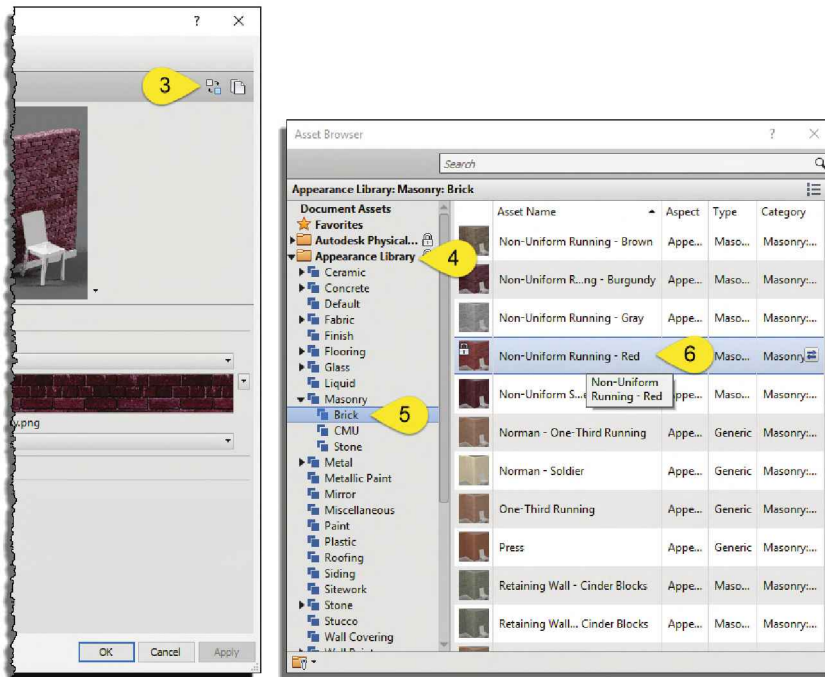

FIGURE 13-2.7 Revit's Asset Library
- Click on the **Replace Asset** icon (Step 1 in Figure 13-2.7).
15. Scroll down in the *Masonry* section and double-click **Non-uniform Running - Red**, and then click the red **X** to close the *Asset Browser* (Figure 13-2.7).